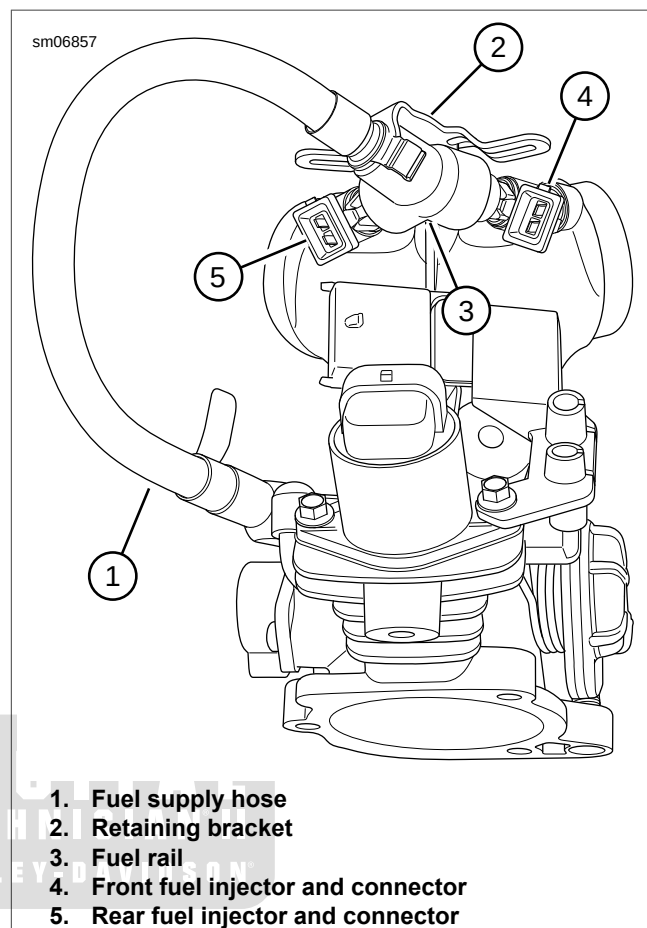
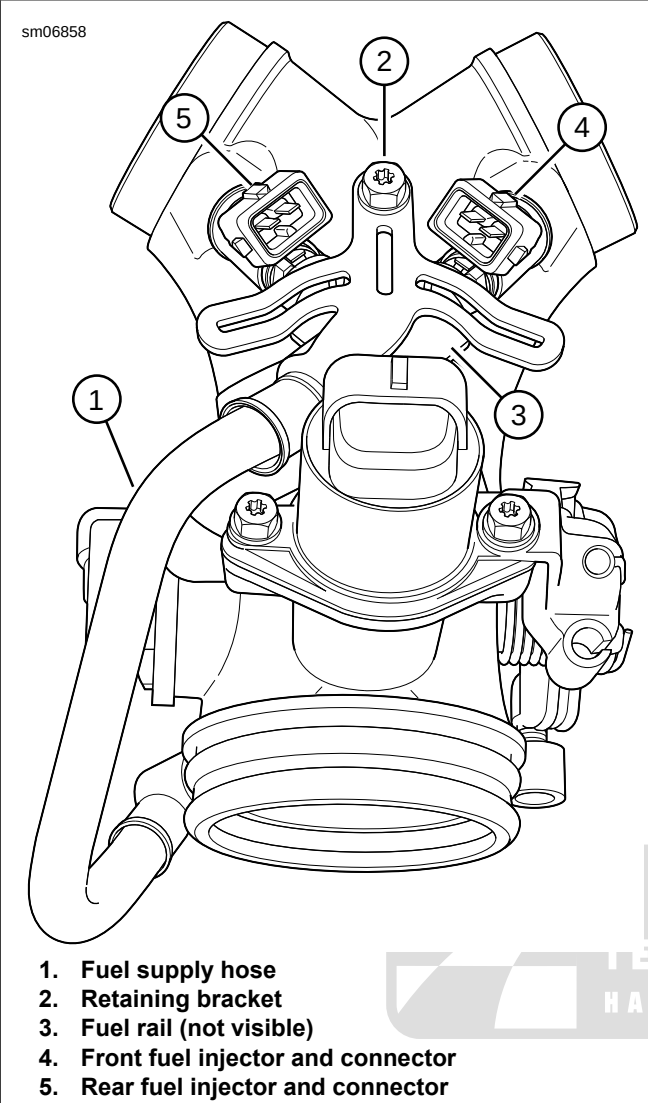
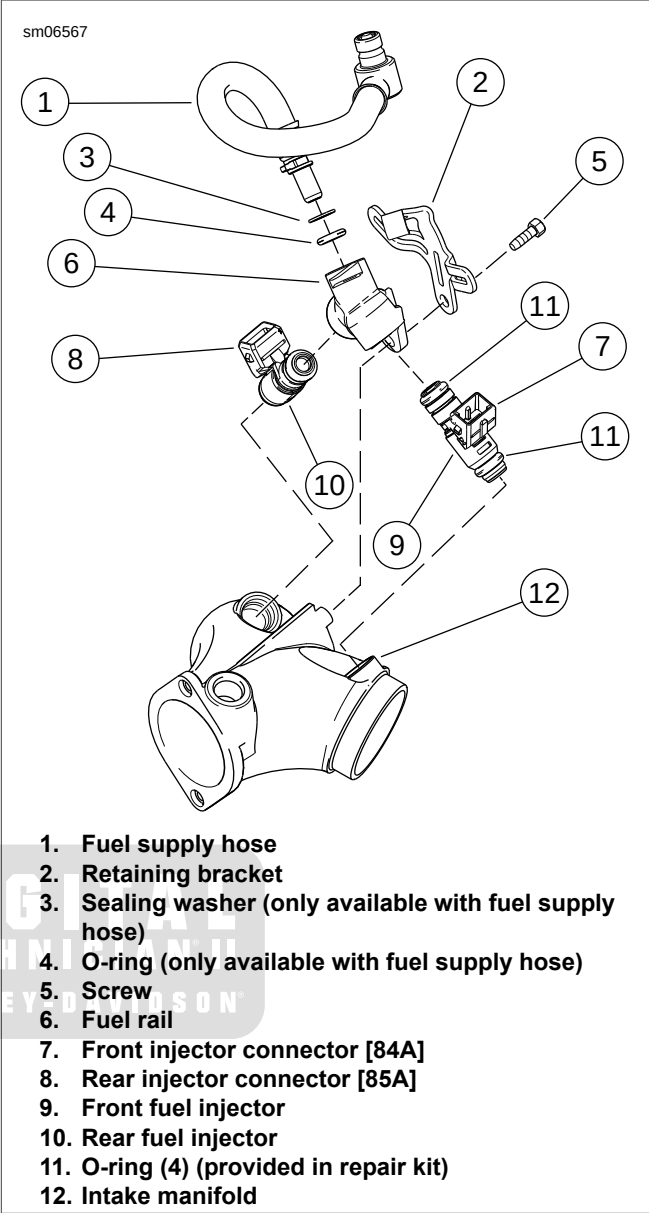
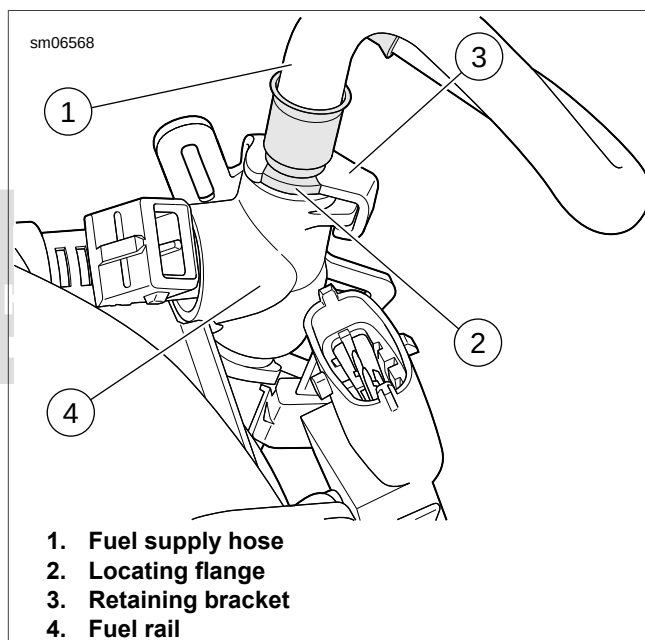

Figure 4-70. Fuel Injector Assembly Location: XL Models
Figure 4-71. Fuel Injector Assembly Location: XR 1200X
Figure 4-72. Fuel Injector Assemblies: XL Models
Figure 4-73. Mounting Fuel Hose and Fuel Rail: XL Models
4. See Figure 4-72. Unplug engine sub-harness connectors from fuel injector connectors [84A], [85A] (7, 8).
5. Remove screw (5) and retaining bracket (2).
6. If replacing either the fuel supply hose (1) or fuel rail (6), disassemble as follows:
9. Remove and discard O-rings (11).
1. See Figure 4-72. Apply a thin coat of clean engine oil to **new** fuel injector O-rings (11). Install O-rings onto fuel injectors (9, 10).
3. See Figure 4-70 or Figure 4-71. Rotate fuel injectors so that harness connectors are positioned as shown.
4. Gently press fuel rail onto free end of fuel injectors. Press fuel rail down until hole in fuel rail molded-in bracket lines up with mounting hole in intake manifold (12).
- a. See Figure 4-72. Inspect sealing washer (3) and O-ring (4) for damage. If either require replacement, install a **new** fuel line kit.
6. See Figure 4-72. Install retaining bracket (2) and fastener (5) as follows:
- a. See Figure 4-73. Orient fuel supply hose so that locating flange (2) is positioned as shown.
- b. Install retaining bracket (3). Fit the U-shaped opening in bracket around fuel supply hose and locating flange.
- c. See Figure 4-72. Secure retaining bracket (2) with screw (5). Tighten to 60 **in-lbs** (6.8 Nm).
- **XL Models:** See Figure 4-70. The fuel injector harness leads are mounted between the bracket and induction module.
- **XR 1200X:** See Figure 4-71. Do not route the fuel injector harness leads between the retaining bracket (2) and induction module body. Improper routing will result in chafing of the insulation resulting in poor engine performance.
7. Connect engine sub-harness connectors to the fuel injectors. Verify that the wire harnesses are routed outside the wings of retaining bracket (2) on XR 1200X.